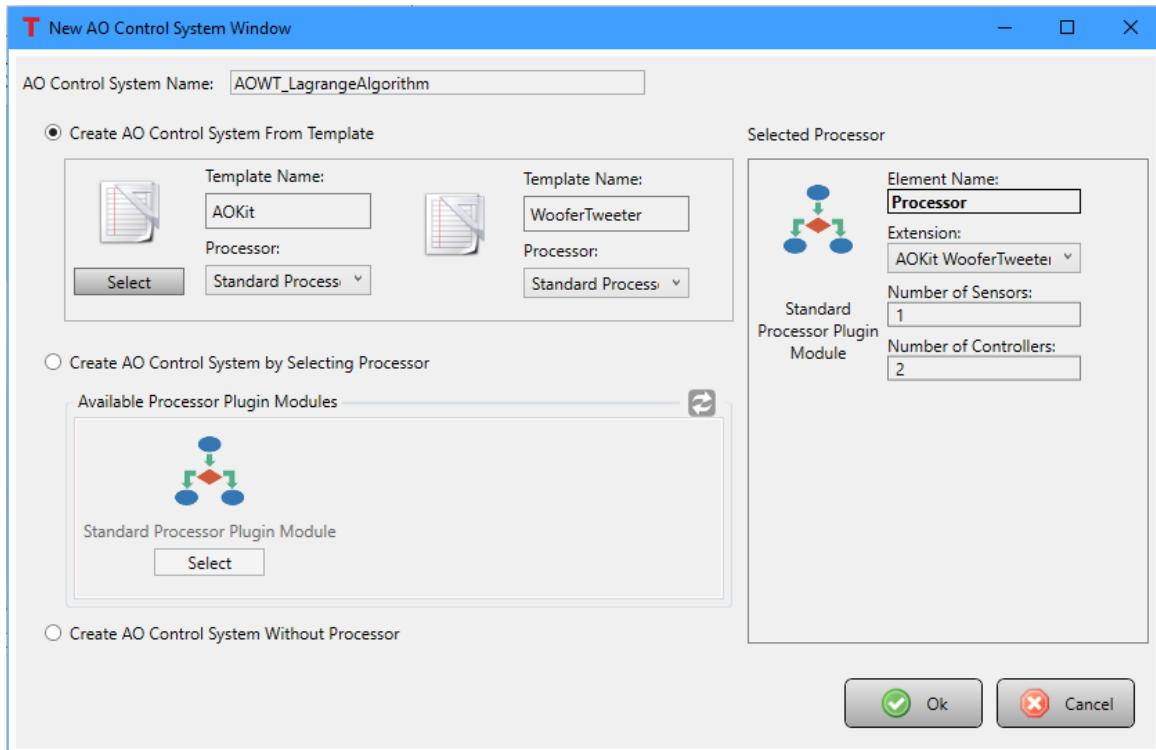

Figure 86 Within the **Create Control System From Template** options, select the **WooferTweeter** template.
2. Click the button to the left of the **Create System From Template** option. Then select the template named WooferTweeter. A processor will appear in the Selected Processor box at the right side of the window. See Figure 86. There is a dropdown menu under the Extension option for the processor; from this menu select the processor type to use with the AO control system. Three options are available: AO Kit WooferTweeter Lagrange Based Processor Extension Module, AO Kit WooferTweeter Orthogonal Based Processor Extension Module, and AO Kit WooferTweeter Standard Processor Extension Module. See Section 5.3 for details about these three options.